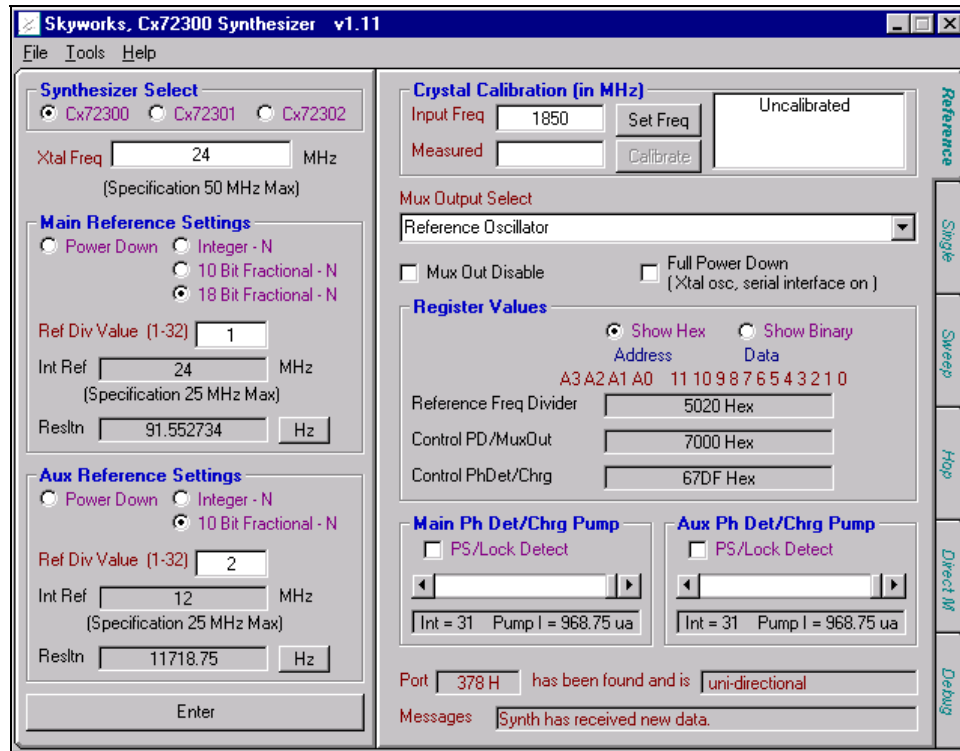

Figure 1. Software Interface Window: Reference Tab
3. Click the **Reference** tab of the software interface window (see Figure 1).